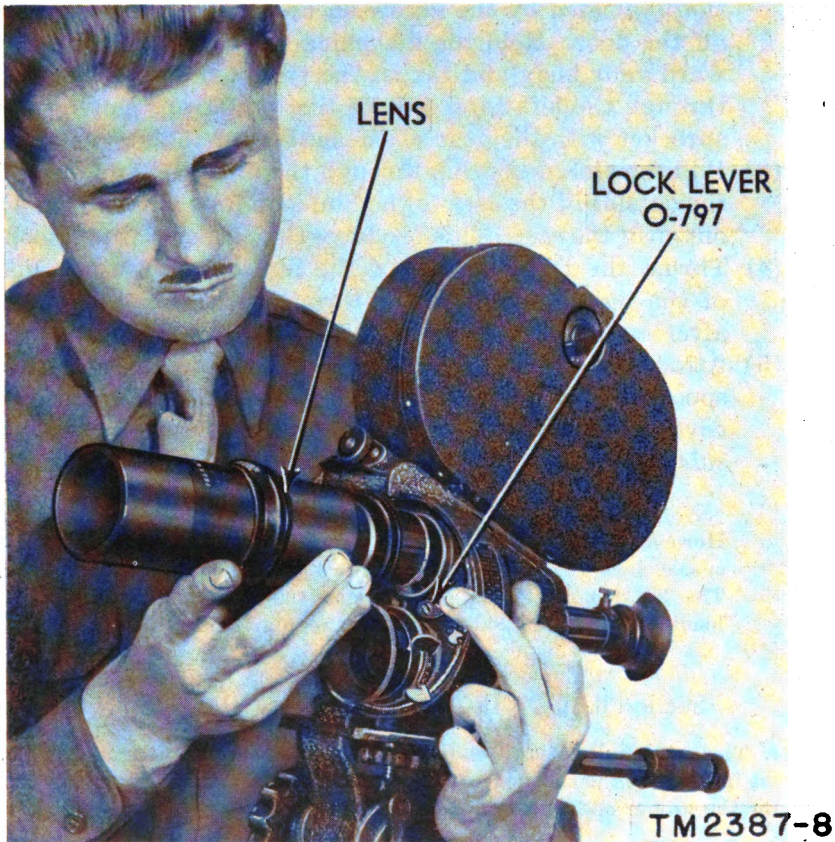

Figure 8. Changing lens on turret.
b. CHANGING LENS ON TURRET (fig. 8). To remove a lens from the turret, press the release (lock) lever away from the lens to